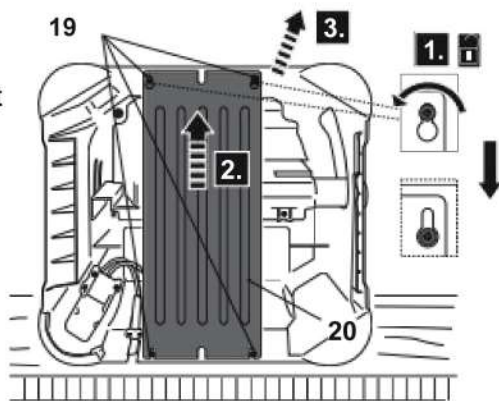

Fig. 25
> Place the table saw (8) on a flat one and a stable surface. Set up the saw with the bottom facing towards you. Loosen the screws the fasteners (19), but do not remove them (fig. 25, step 1). Slide the plate bottom (20) until the holes w plate align with the bolts fasteners, and then remove plate, revealing the engine compartment (fig. 25, steps 2 and 3).